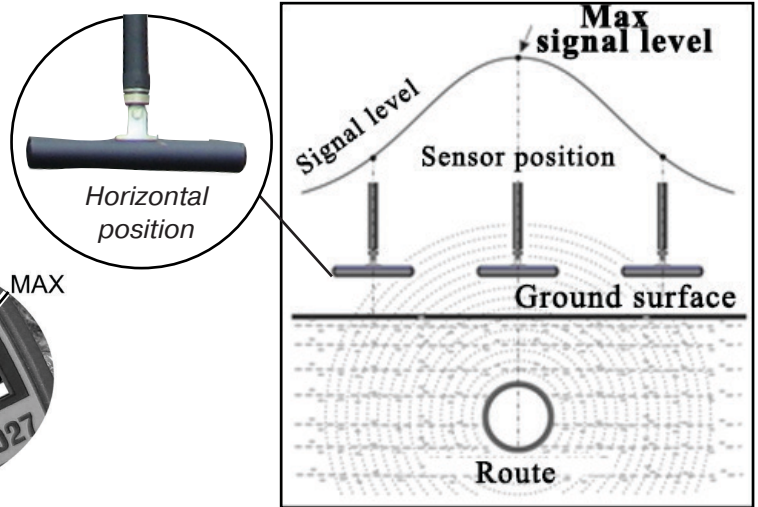

Fig. 5.3
1) return conductor – ground (Fig. 5.3)